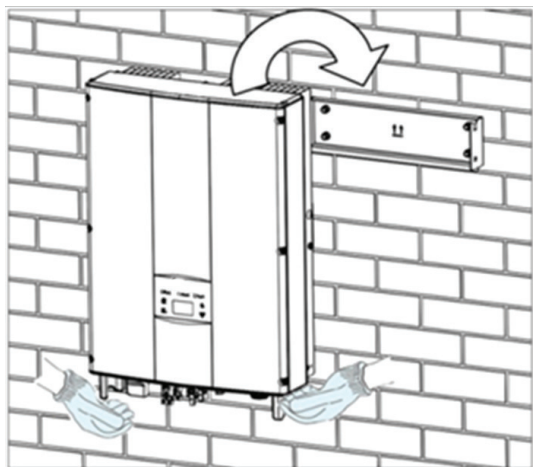

Figure 14 Installation of inverter
(5) Hang the inverter onto the installation bracket and ensure the installation is firm enough. As shown in Figure 14.